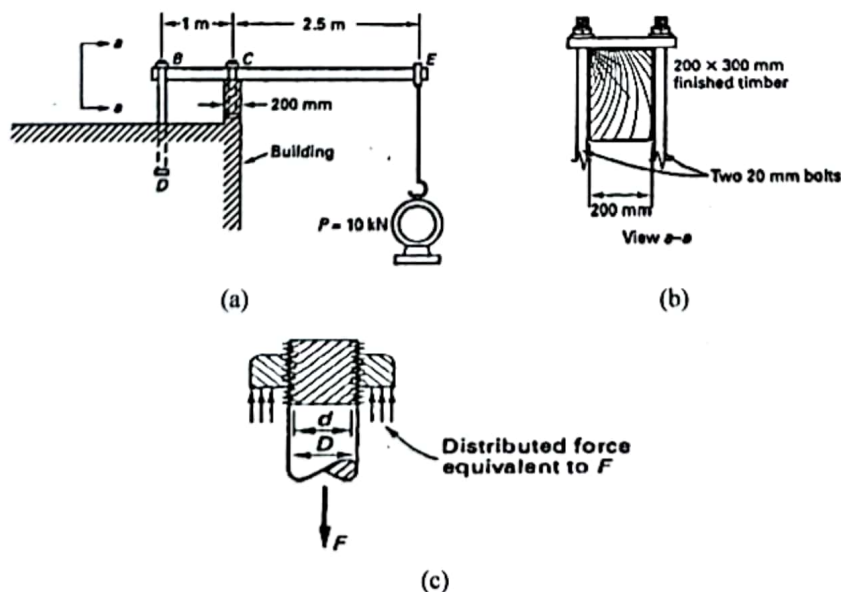

Fig. 2
| 2. | The beam as shown in Fig. 2 (a), (b), (c) is used for hoisting instruments. It is anchored by two bolts at B. At C it rests on parapet wall. The necessary details are given in the Fig. 2. Note that bolts are threaded with $d = 16$ mm at the root of the threads as shown in Fig. 2 (c). If this hoist can subject to a force of 10 kN, determine the stress in bolts at BD and the bearing stress at C. Assume the weight of the beam is negligible. | (30) | 1 |